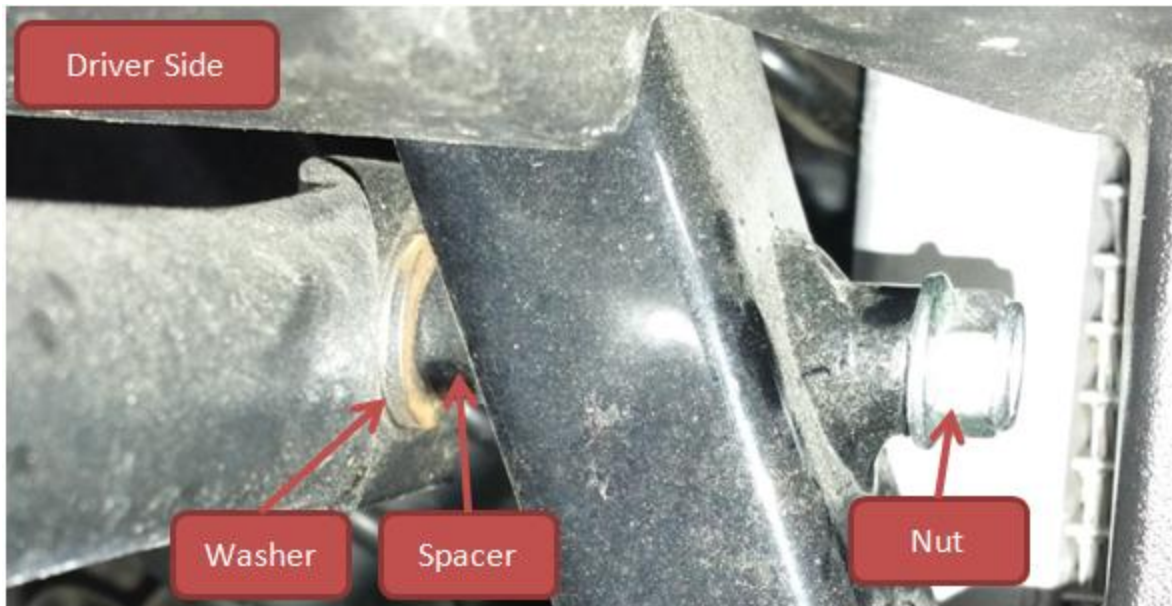

Figure 5
5. Reinstall the bumper in reverse order. Note the orientation of the upper mounting bolts and the position of the spacer as shown in Figure 5.